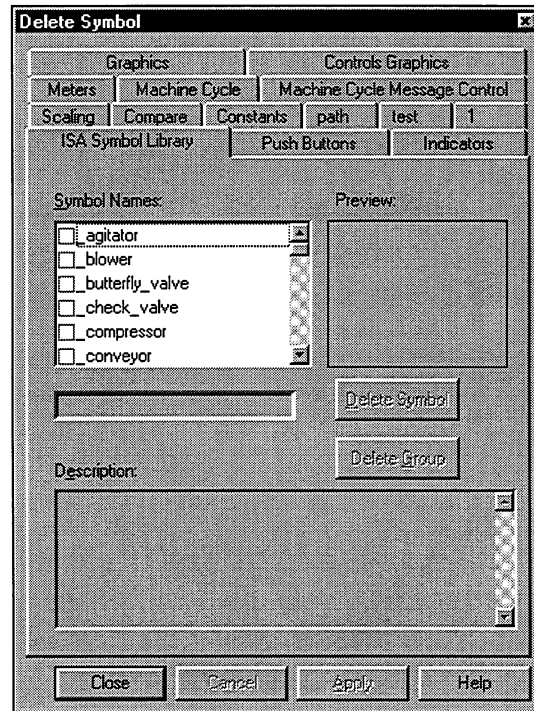

Figure 8-10. Delete Symbol Dialog Box
1. Select the Delete Symbols command on the Symbol menu in the Graphic Editor or click on the Delete Symbols button. The Delete Symbol dialog box opens, as shown in Figure 8-10.